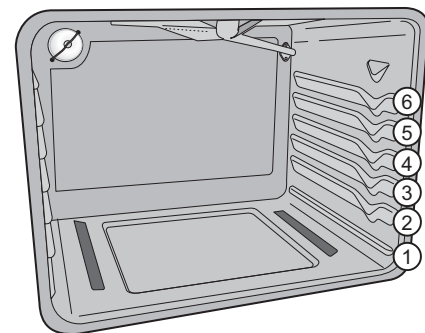

Figure 13: Rack positions
- For best results when baking cakes using two oven racks, place racks in positions 3 and 5 (See Figure 13).